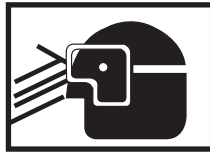

**Figure 1. Ballast Pump**
1. Remove the nuts (figure 1, item 1) and the bolts (figure 1, item 2) that secure the intake flange (figure 1, item 3).
2. Remove and discard the gasket (figure 1, item 4).
3. Remove the nuts (figure 1, item 5) and the bolts (figure 1, item 6) that secure the discharge flange (figure 1, item 7).
4. Remove and discard the gasket (figure 1, item 8).
1. Clean the sealing surfaces of the intake flanges (figure 1, item 3) and discharge flanges (figure 1, item 7) using a wire brush.
2. Install a new gasket (figure 1, item 4) and the intake flange (figure 1, item 3) on the ballast pump (figure 1, item 9).
3. Install the nuts (figure 1, item 1) and bolts (figure 1, item 2) to secure the intake flange (figure 1, item 3). Tighten the nuts and bolts.
4. Install a new gasket (figure 1, item 8) and the discharge flange (figure 1, item 7) on the ballast pump (figure 1, item 9).
5. Install the nuts (figure 1, item 5) and bolts (figure 1, item 6) to secure the flange (figure 1, item 7). Tighten the nuts and bolts.